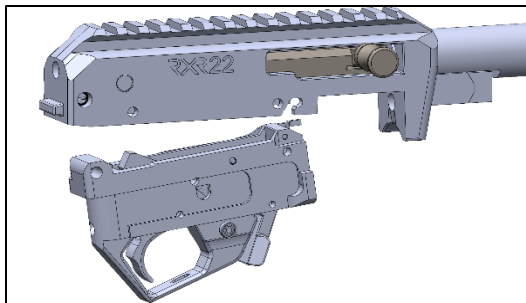

Figure 25
- Rotate the trigger group down and pull slightly rearward to disengage the trigger group from the receiver – Figure 25.